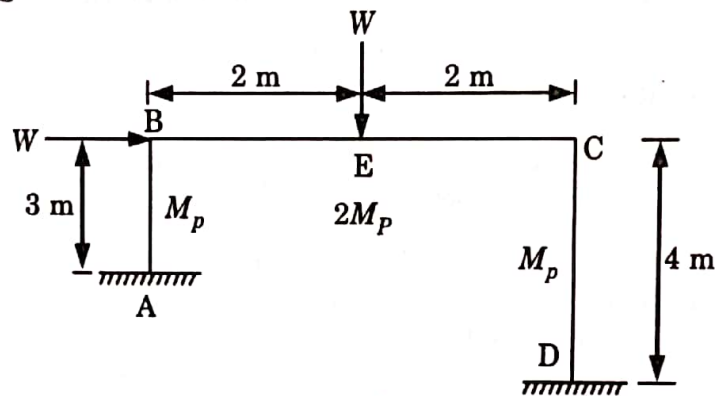

Fig. 13.
a. Find the collapse load for the loaded portal frame shown in Fig. 13.